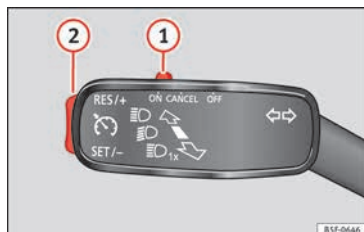

Fig. 48 See position on page 9-10
- Switching on the CCS: Move switch » Fig. 48 ① to **ON**. The system is on. If no speed has been programmed, the system will not control it.
- Activating the CCS: Press button » Fig. 48 ② in the **SET/-** area. The current speed is memorised and controlled.
- Temporarily switching off the CCS: Move switch » Fig. 48 ① to **CANCEL** or push the brake. The cruise control system is switched off temporarily.
- Reactivating the CCS: Press button » Fig. 48 ② in **RES/+**. The memorised speed is saved and controlled again.
- Increasing stored speed during CCS regulation: press button ② in **RES/+**. The vehicle accelerates until the new stored speed.
- Reducing stored speed during CCS regulation: press button ② in **SET/-** to lower the
- Switching off the CCS: Move switch » Fig. 48 ① to **OFF**. The system is disconnected and the memorised speed is deleted.